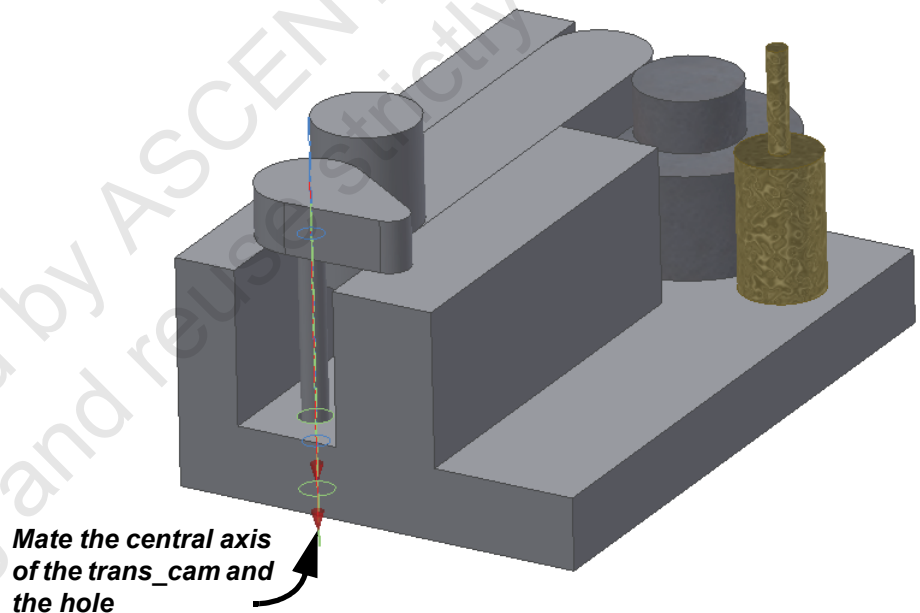

Figure 1–17
2. Apply a Mate constraint between the center line of the **trans_cam** rod and the center line of the round hole in **drive_base.ipt**, as shown in Figure 1–17.
3. Apply a Mate constraint between the surfaces shown in Figure 1–18. One rotational degree of freedom remains.